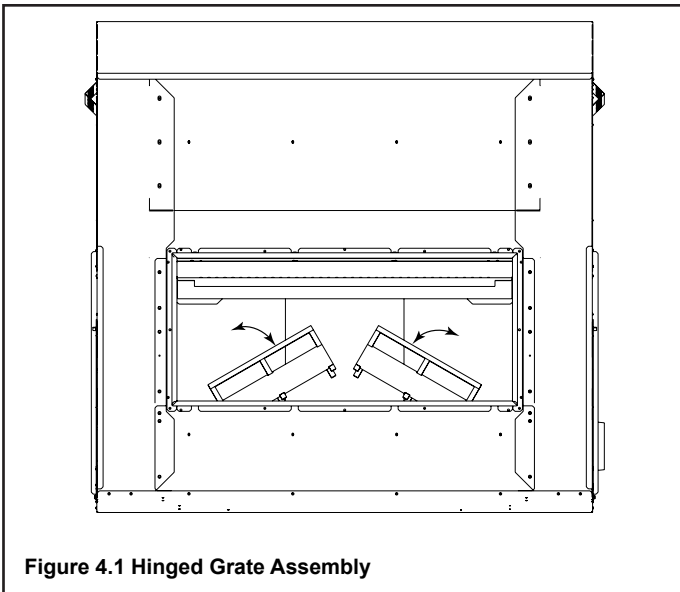

Figure 4.1 Hinged Grate Assembly
- Remove the top of the termination cap as shown in Figure 4.1 to clean the cap and chimney.